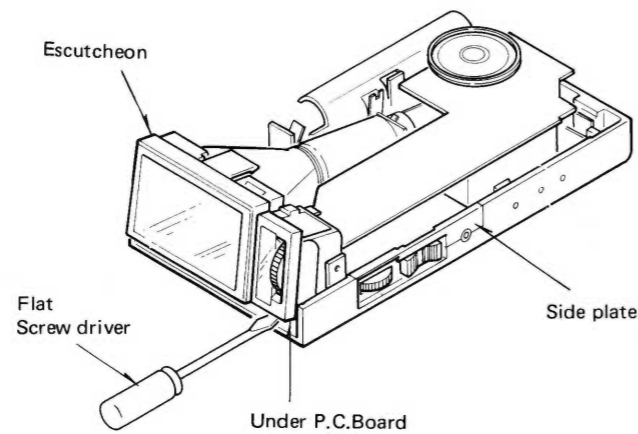

Fig. 2
2. Lift the escutcheon, then lift the under P.C.Board with flat screw driver as shown in Fig 2.